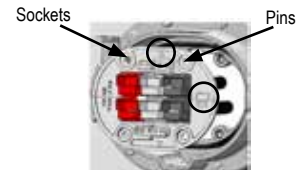

Figure 6
- Orient the insert holder with the  to the right (See Figure 6)